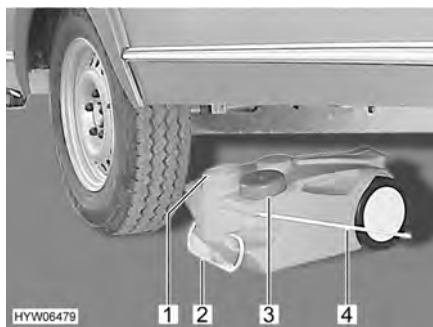

Fig. 155 Waste water tank, mobile
- Use the cap (Fig. 155,3) to close the opening of the waste water tank (Fig. 155,1).
- Use the handle (Fig. 155,2) to pull out the waste water tank.
- Fold the carrying handle (Fig. 155,4) up and upright the waste water tank.